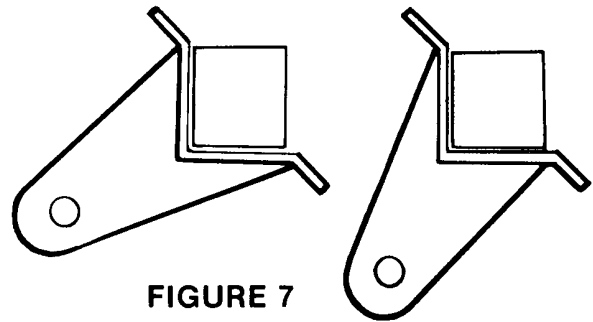

FIGURE 7
STEP 7. Assemble rod end bracket on side tube of back-up structure. Use (4) 3/8" x 1" bolts and Nylok nuts. Note that rod end bracket is slightly asymmetrical so that turning the bracket over will provide an additional drive angle. See figure 7.